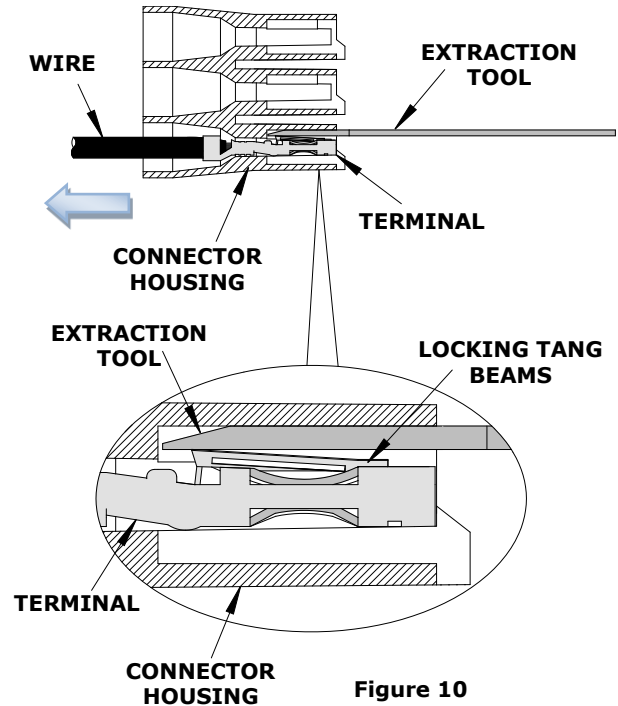

Figure 10
4. Pull the terminated wire out in the arrow direction. See Figure 10.